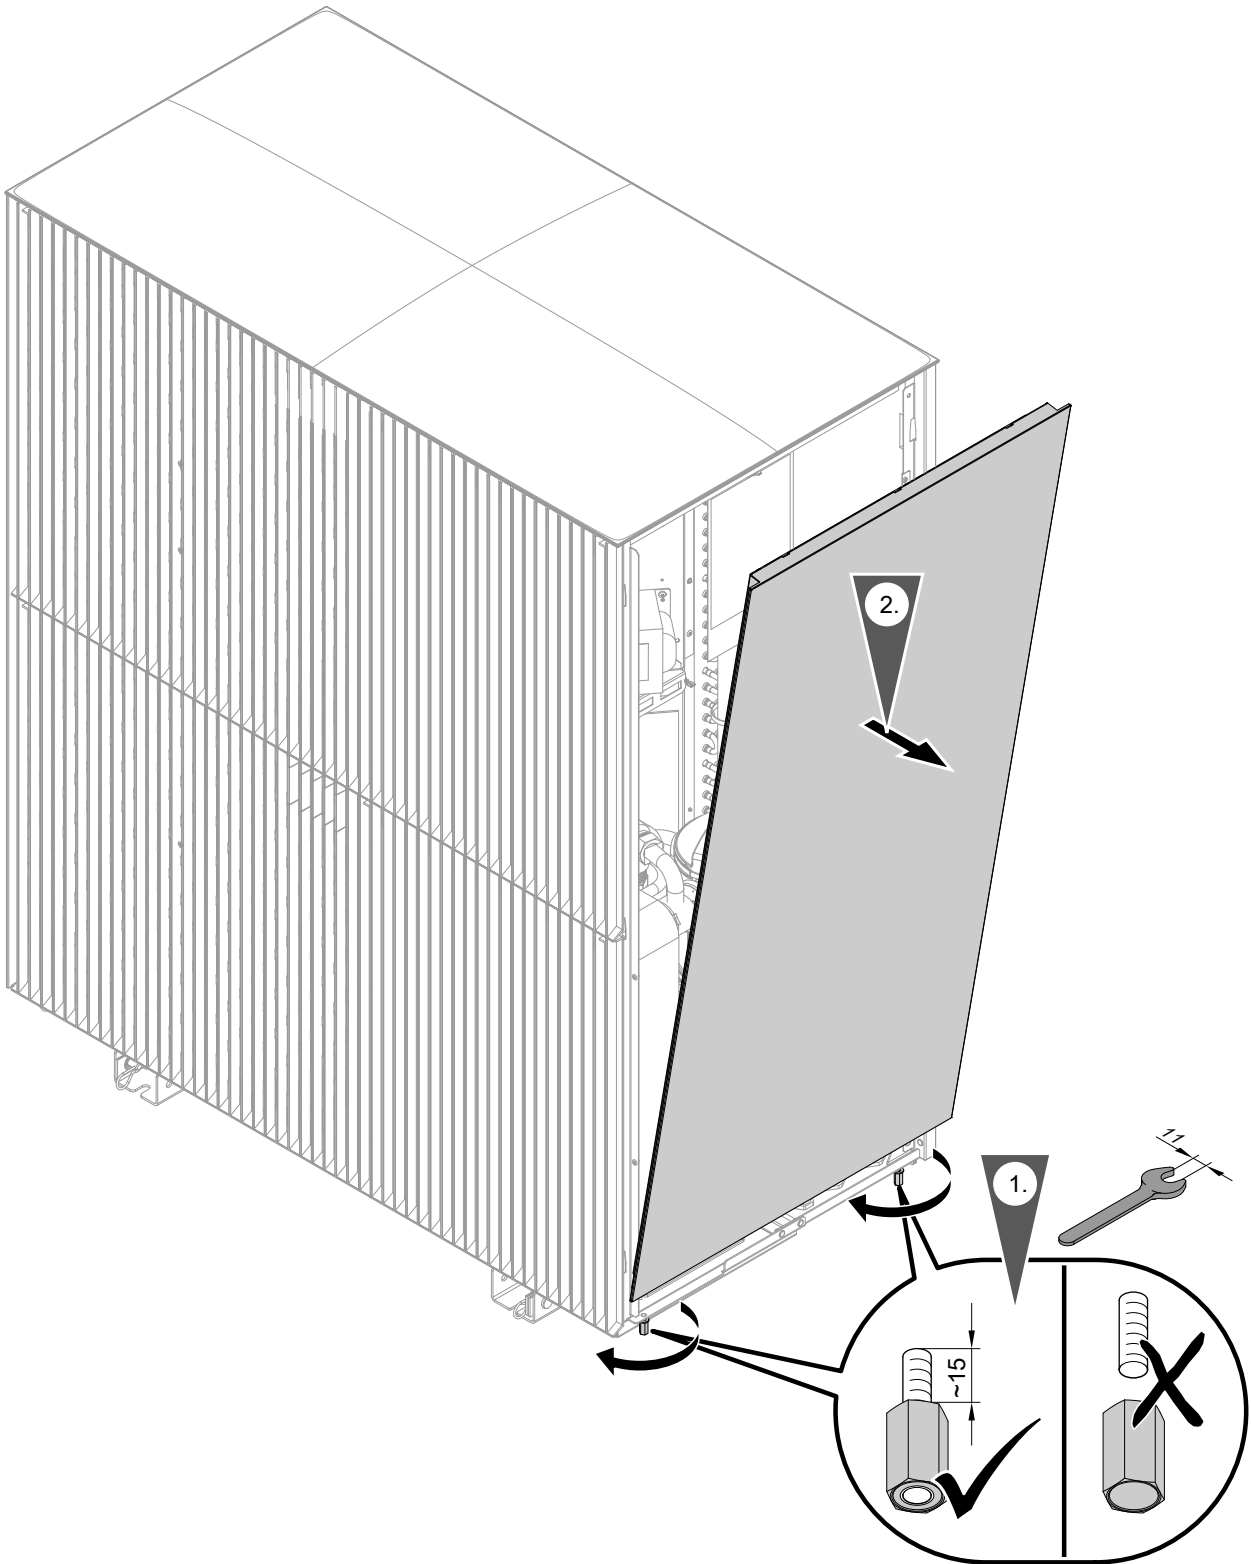

Fig. 100
1. Remove side casing, right: See Fig. 100.
6. Remove side casing, right: See Fig. 100.